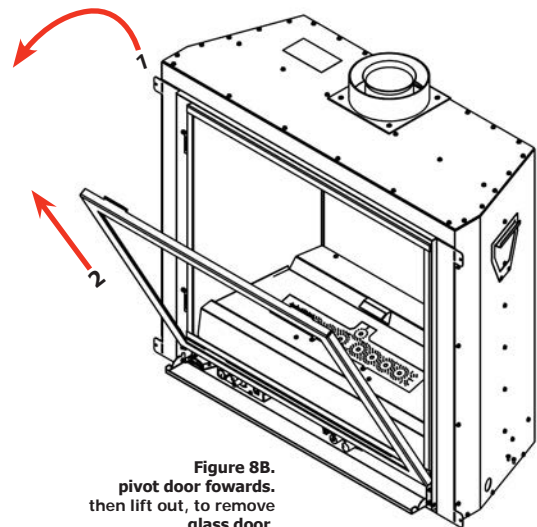

Figure 8B. pivot door forwards. then lift out, to remove glass door.
Step 3. Once released, pivot the door forward and pull it out of the bottom door retainers. The door must be angled in order for it to pull out. Fig. 8B